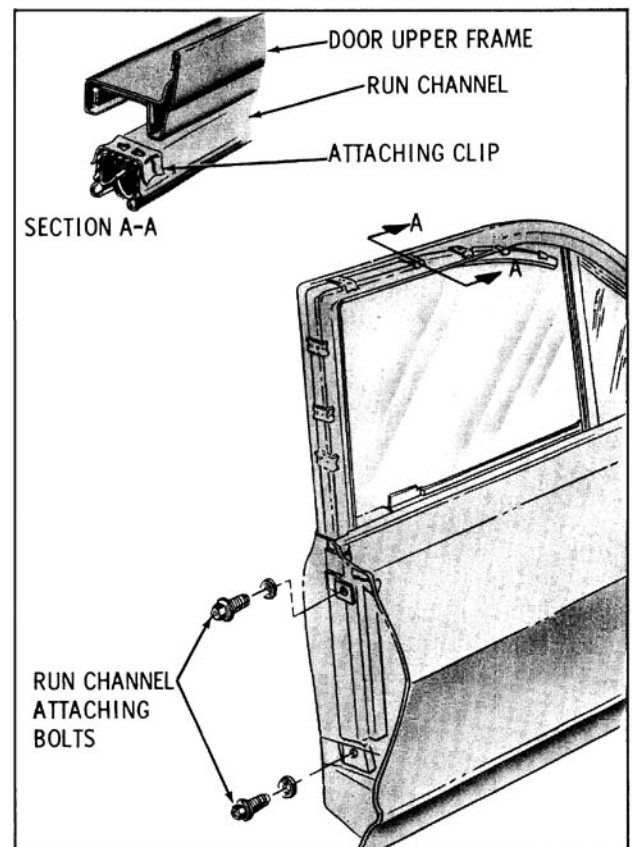

Fig. 16-51 Front Door Glass Run Channel
glass and in the glass run channel assembly at rear edge of glass. The glass run channel assembly is retained by two bolts at the front door lock pillar (below belt line) and by clips inserted into the door upper frame. (Fig. 16-51)
3. Remove upper and lower bolts securing glass run channel to door lock pillar panel. (Fig. 16-51)
NOTE: Pressure should be exerted at the retaining clips shown in Fig. 16-51. Extreme care should be exercised during removal of run channel as this part is easily damaged by rough treatment.
door upper frame, it can be pulled straight up at the lock pillar panel and removed from door inboard of door upper frame. (Fig. 16-51)